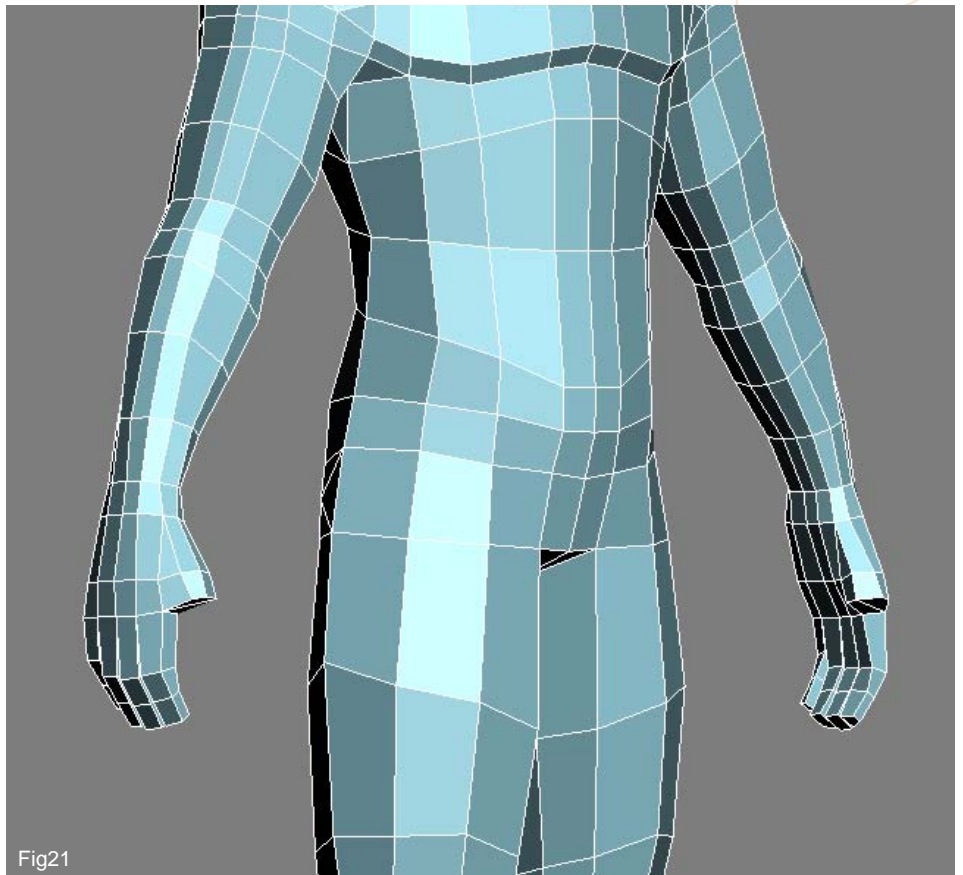

Fig21
21. Rotate these new poly's a little and then do a further two extrusions, scaling them down somewhat to shape the fingers (Fig21).